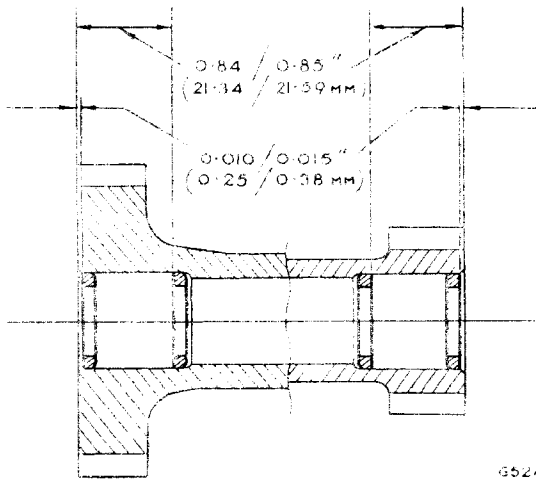

Fig. 35. Dimensions for fitting countershaft needle roller retaining rings
If necessary fit new retaining rings (50), (52), (54) and (56) to the dimensions shown in Fig. 35. Replace the needle rollers (51) and (55), smear them with heavy grease and insert the retaining tube.